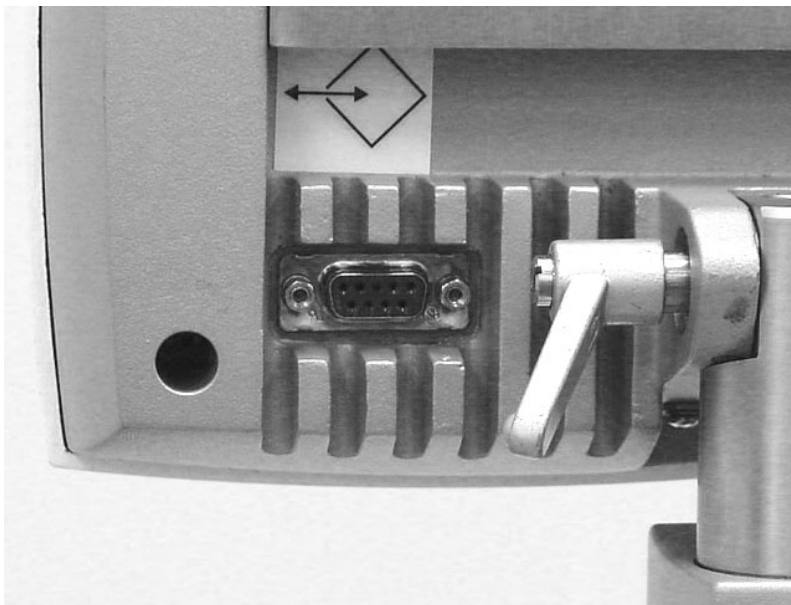

Figure 4.77. RS-232 Connector – Rear Display Head
9. Connect the HMIA RS232 connector, labeled RS232, to the mating connector on the rear of the display head. (See Figure 4.77.)